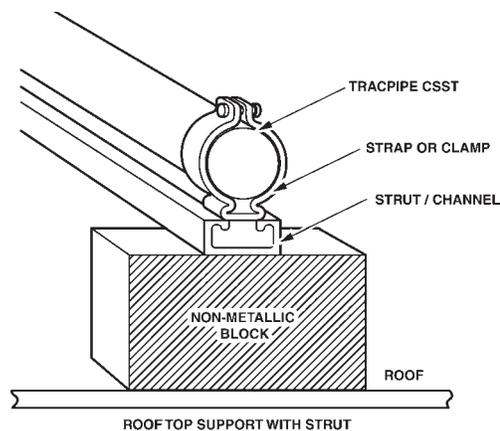

Figure: 4-18
3. **CounterStrike**® may be supported with strut/channel running from block to block beneath the flexible gas pipe. Galvanized shallow channel (13/16 inch) with splice plates at joints and bends provides a secure, damage resistant “track”. With metallic strut support, blocks can be reduced to every 8 feet. The **CounterStrike**® should be firmly attached to each block with metallic clamps designed for the strut or appropriate fastening mechanism. (See Figure: 4-18). Black cable ties (UV resistant) at intermediate points facilitate rolling out the **CounterStrike**®. The blocks are to be attached to the roof surface in accordance with the roofing manufacturer’s instructions.